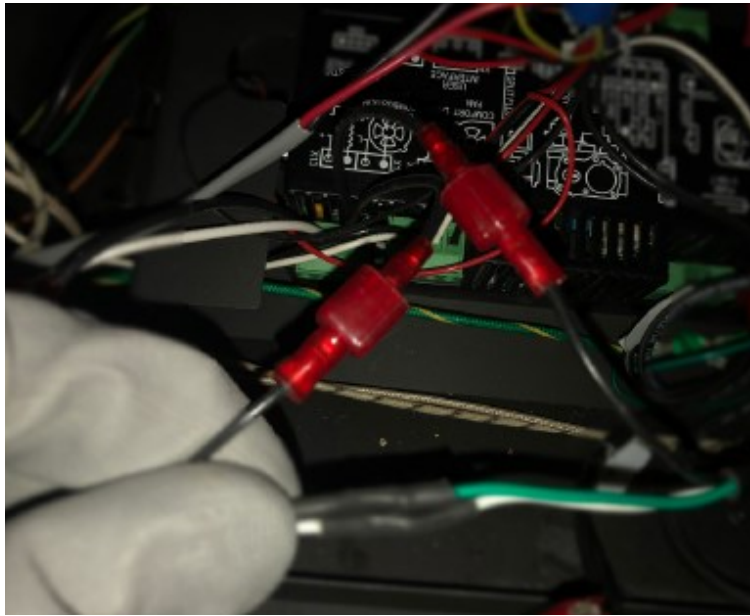

Figure 6.17 - Wire Harness - Quick Connection to Black Leads
4. Now we will connect the power vent wire harness to the control module and fireplace wire harness. The power vent wire harness has the black hot wire split with two female quick connections on either end. Plug these into the black leads that have quick connections coming off the control module in the X12 combustion blower location. See Figure 6.17.